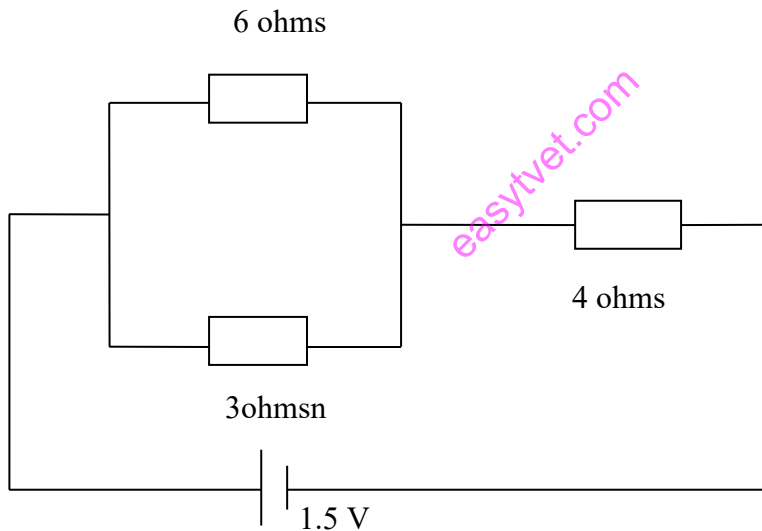

Figure 1
- c. Figure 1 shows a battery of 1.5V and two resistors 6 ohms and 3 ohms in parallel connected in series to a 4 ohms' resistor.